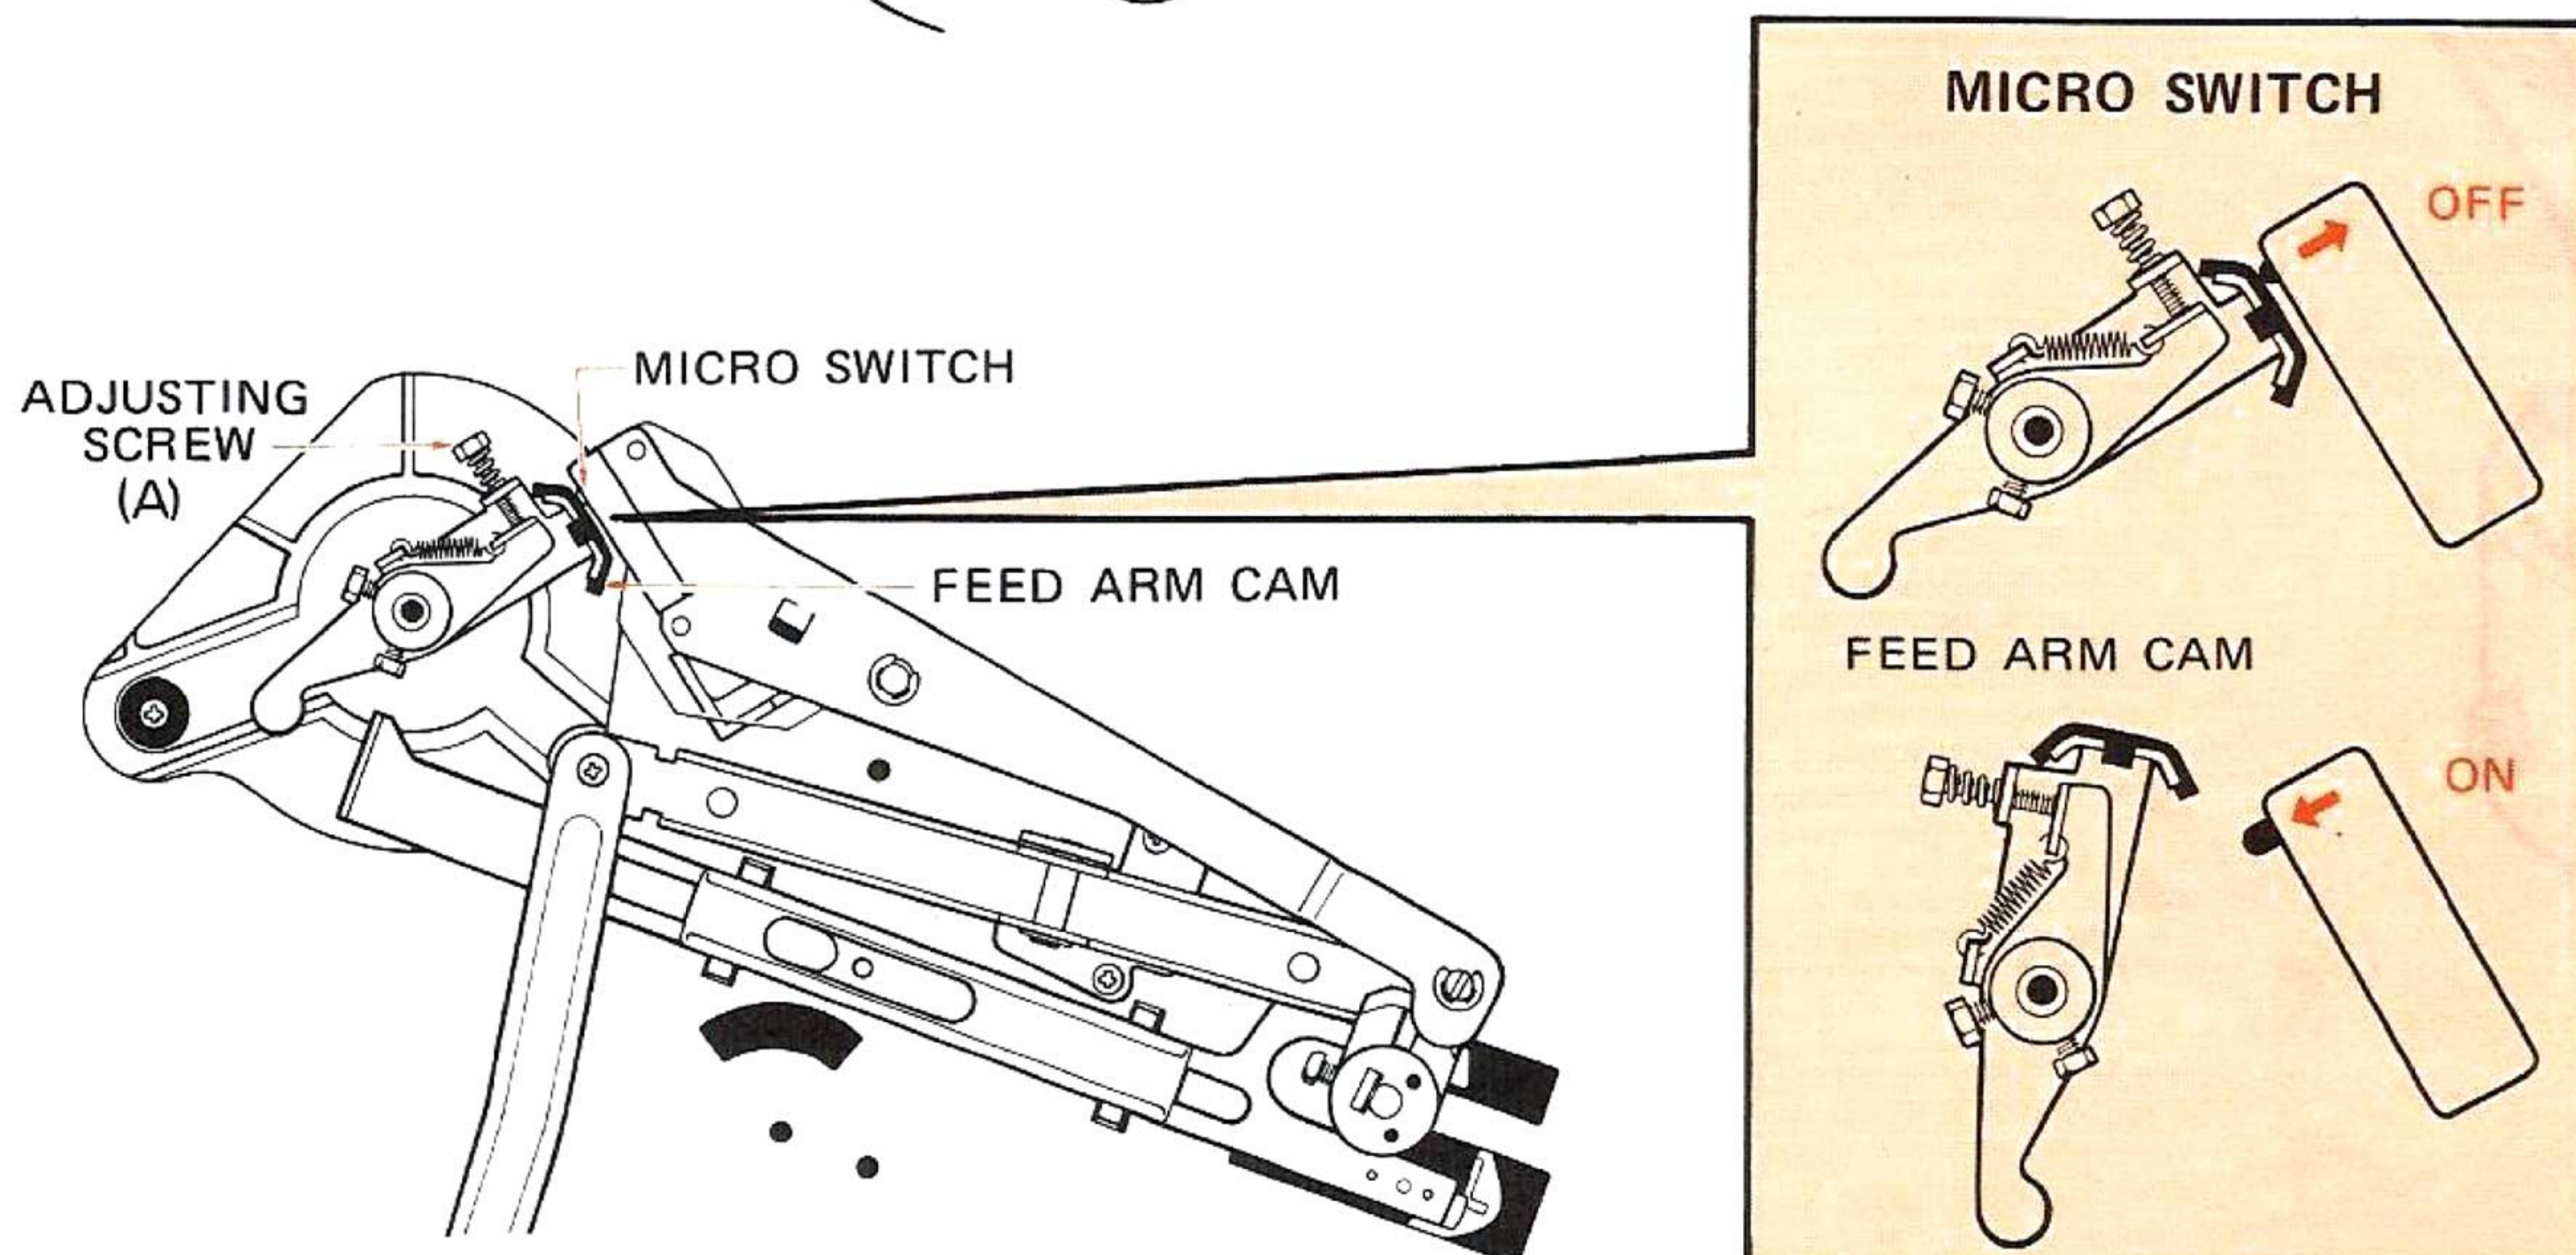

Fig. 3
Check that the micro switch in Fig. 3 is OFF when the tonearm is resting on the arm rest. (Refer to Fig. Fig. 3.)
If it will not go OFF, rotate screw (A) in Fig. 3 and adjust.
Now set the turntable to the operating mode, depress the CUT button, rotate screw (A) in Fig. 3 and adjust the position of the feed arm cam so that the micro switch goes OFF when the tonearm moves across to the outside of the platter.